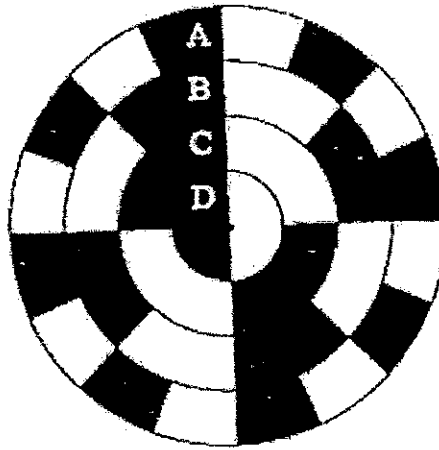

Figure Q1
An optical encoder is shown in Figure Q1. White and black represents logic 0 and 1 respectively.
- There are two major types of optical encoder. Identify the type of encoder shown in the Figure Q1. [4 marks]
- Identify whether the encoder shown in the Figure Q1 is gray code or not? [4 marks]